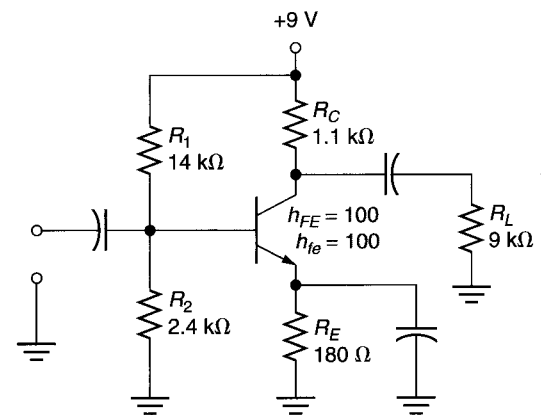

FIGURE 9.33
12. Derive the ac equivalent circuit for the amplifier shown in Figure 9.33. Include all component values.
22. Determine the value of  $A_v$  for the amplifier in Figure 9.33.
28. Determine the value of  $A_p$  for the circuit shown in Figure 9.33. Assume that the circuit has a value of  $A_i = 7.5$ .
34. Calculate the open-load voltage gain for the circuit shown in Figure 9.33.
38. Determine the values of  $Z_{in(base)}$  and  $Z_{in}$  for the amplifier in Figure 9.33.